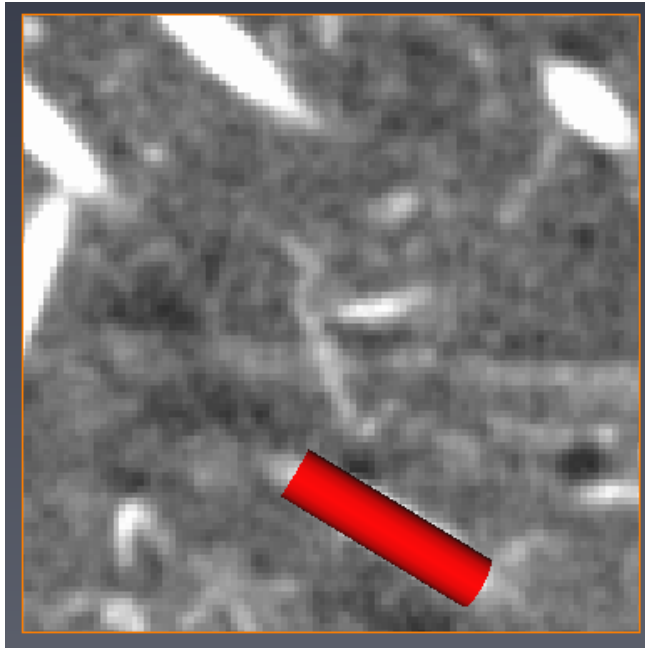

Figure 12.8: Visual Cylinder Radius Setup
4. Set the radius of the cylinder template. The slice can now be changed to see the cross section of the fiber on which the visual template has been set. Left-click on the visual template and move the mouse to interactively change the cylinder radius until it fits the cross section on the slice (see Figure 12.8).